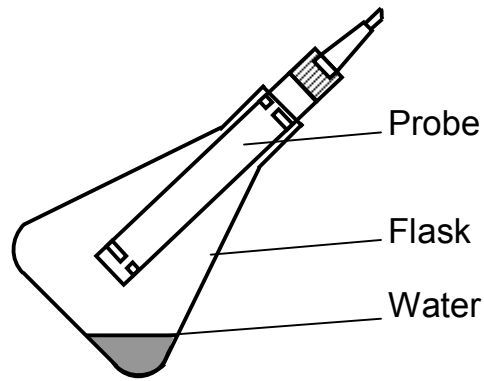

Fig. 2.10 – Probe position in a flask on analyzer calibration
- 3 Shake water drops off the probe membrane and place the probe into a KH-100-19/26 conical flask or a similar vessel filled with water of 3-5 mm layer as shown in Fig 2.10. The flask is to be inclined at 30-45° angle to the horizontal so that residual water might flow down the membrane.